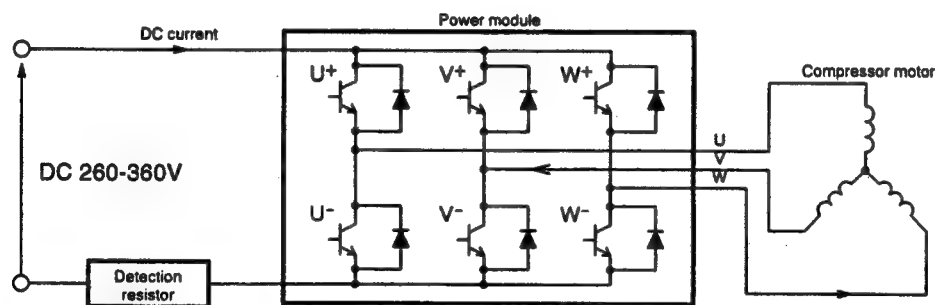

Fig. 8-9
- (1) Turns on the power module's U+ and V- transistors so the current flows to the motor windings as shown in Fig8-9.